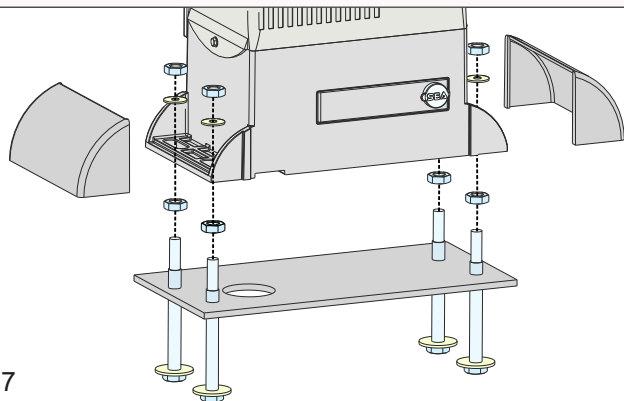
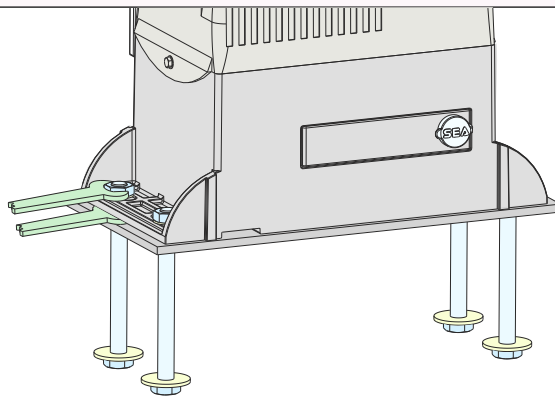

Fig. 7
Fig. 8
4.1. Fix the gearmotor to the foundation plate by the use of the supplied screws - Fig. 7, then adjust its lateral position and height - Fig. 8 - to comply with the dimensions mentioned in Fig. 5
4.2. Insert the two interlocking side covers - Fig. 7